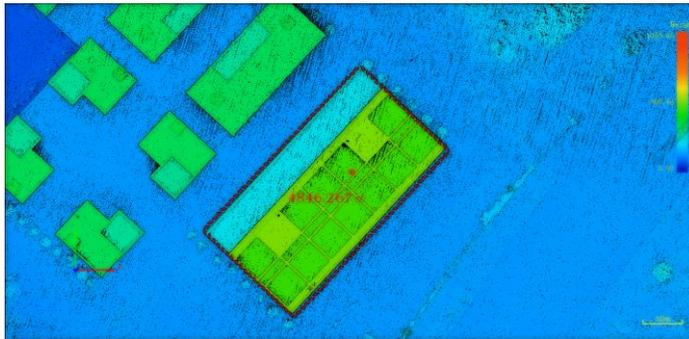

Figure 3-105 Measure Surface Area
- (1) Click the menu <Tools> → <Measure Surface Area>.
- (2) Click the left mouse button to draw polygons at different locations in the view (Figure 3-105), double-click the left mouse button to end the drawing, set the size of the grid, click OK, and the surface area value within the polygon will be displayed in real time on the view.
- (3) Cancel: click <Measure Surface Area> again.